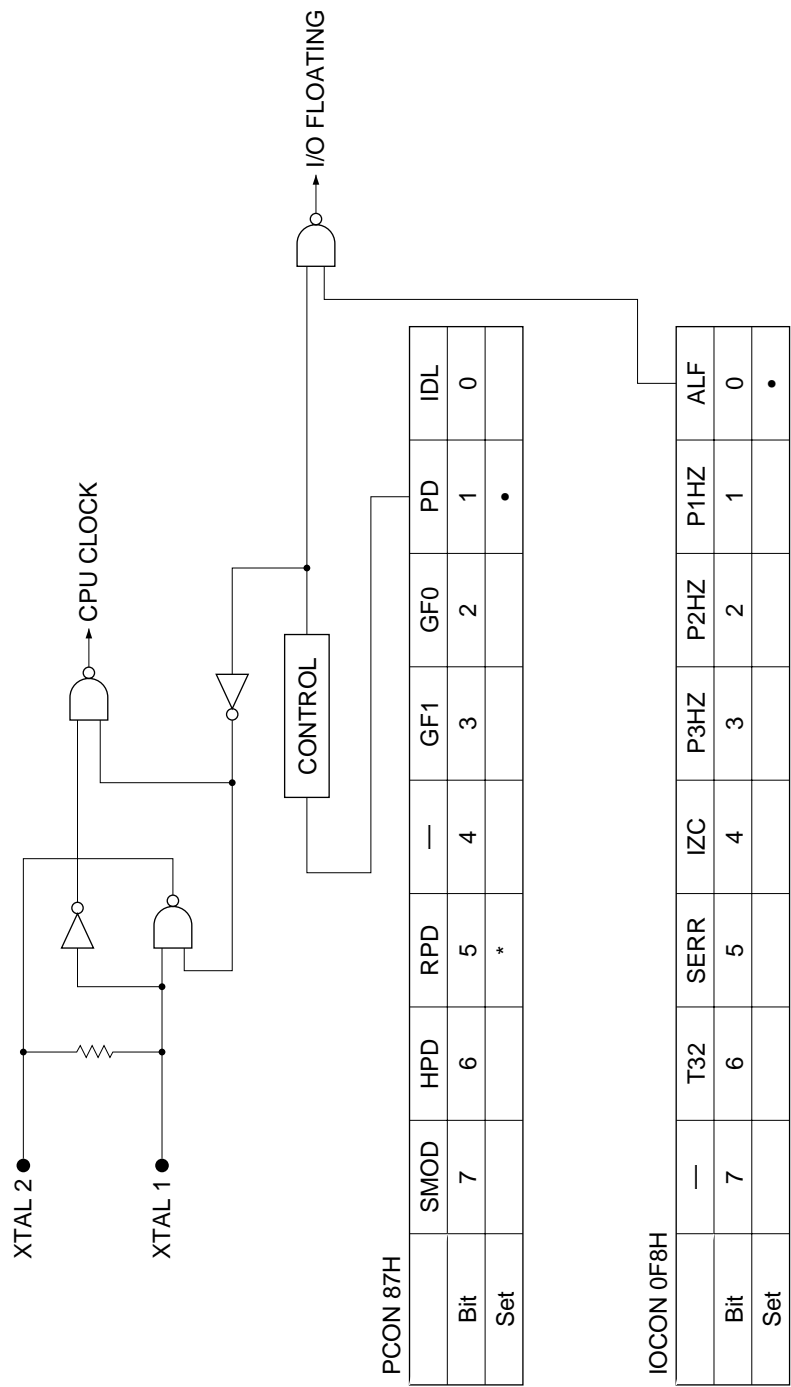

Figure 4-56 Soft power down mode equivalent circuit
4.8.3 Soft power down mode (PD) setting
Soft power down mode (PD) is set when "1" is set in bit 1 (PD) of the power control register (PCON 87H). The circuit connection involved in this setting is shown in Figure 4-56.